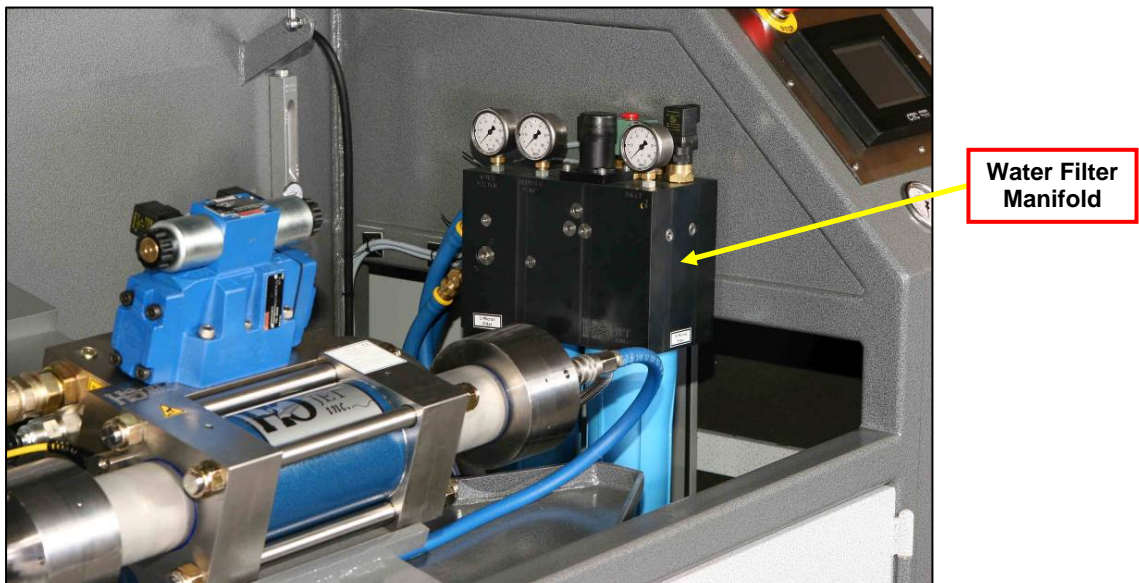

FIGURE 1
2. Locate the water filter manifold on your Advantage UHP pump. It is located under the top cover, near the right side of the intensifier. **See Figure 1.**